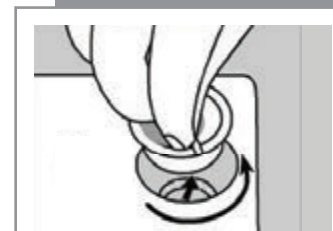

fig. 5
1. Open the rinse aid compartment by turning and removing the cap as shown in figure 5.